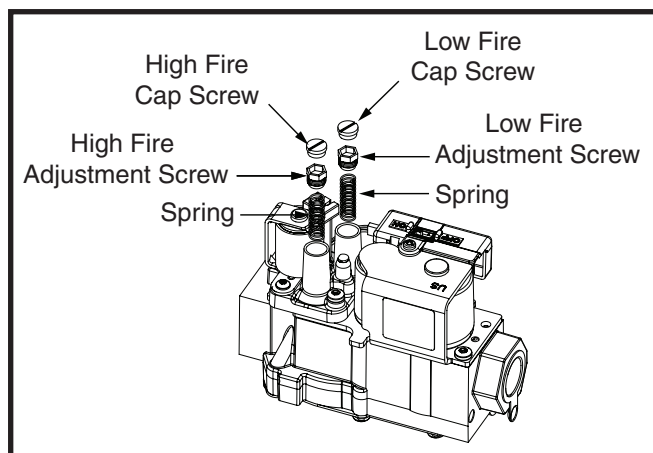

Figure 2. Gas Valve Conversion
8. Remove the HIGH fire cap screw. See Figure 2.
2. Using a 3/16" Allen wrench, remove the plug from the inlet pressure tap (INLET side of gas valve). See Figure 2.
- 1. Using the supplied Torx-25 Wrench, slowly turn the adjustment screw till the appropriate manifold pressure listed in Table 2 is achieved. See Figure 2.